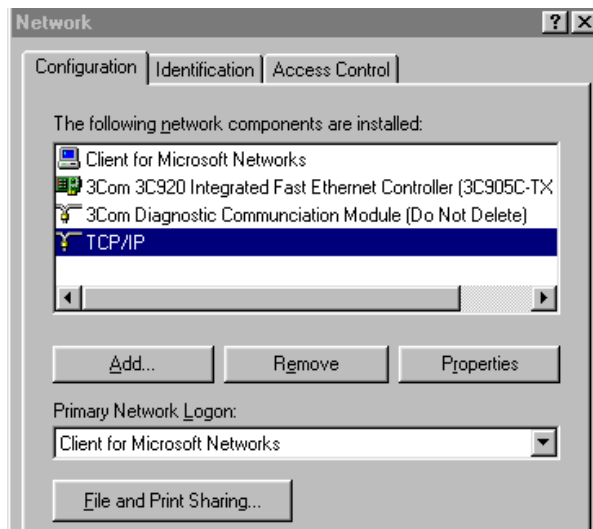

Figure 14-3 Network Window
4. Select *Properties* (see Figure 14-3).